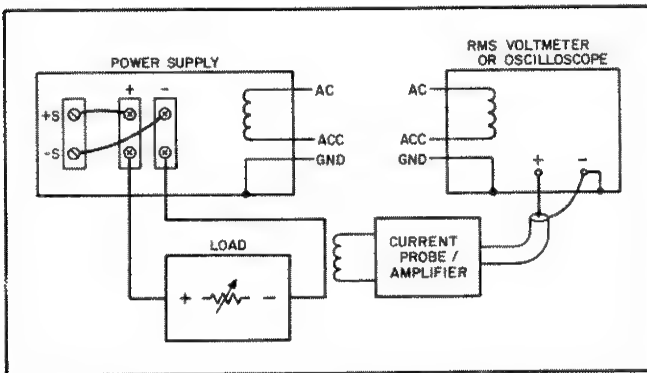

Figure 5-7. Constant-Current Ripple and Noise Measurement Test Setup
- Connect test setup shown in Figure 5-7.